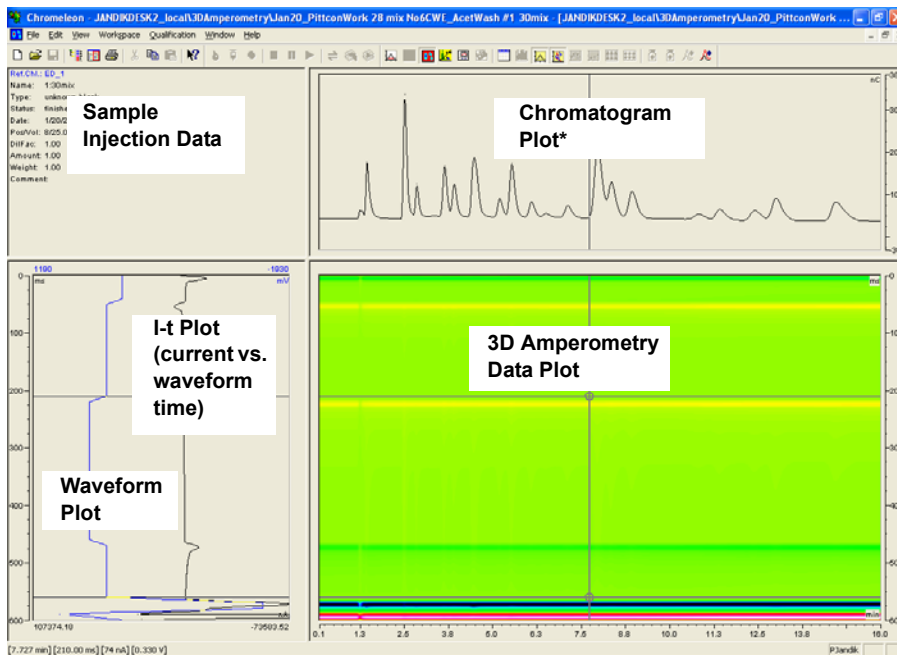

Figure 2-57. 3D Amperometry View Window in Chromeleon 6.8
In Chromeleon 6.8, you can display and reprocess 3D amperometry data in the 3D Amperometry View window (see Figure 2-57). To open the window,
*The chromatogram plot shown in Figure 2-57 was obtained by plotting integrated current (charge, nC) vs. retention time.